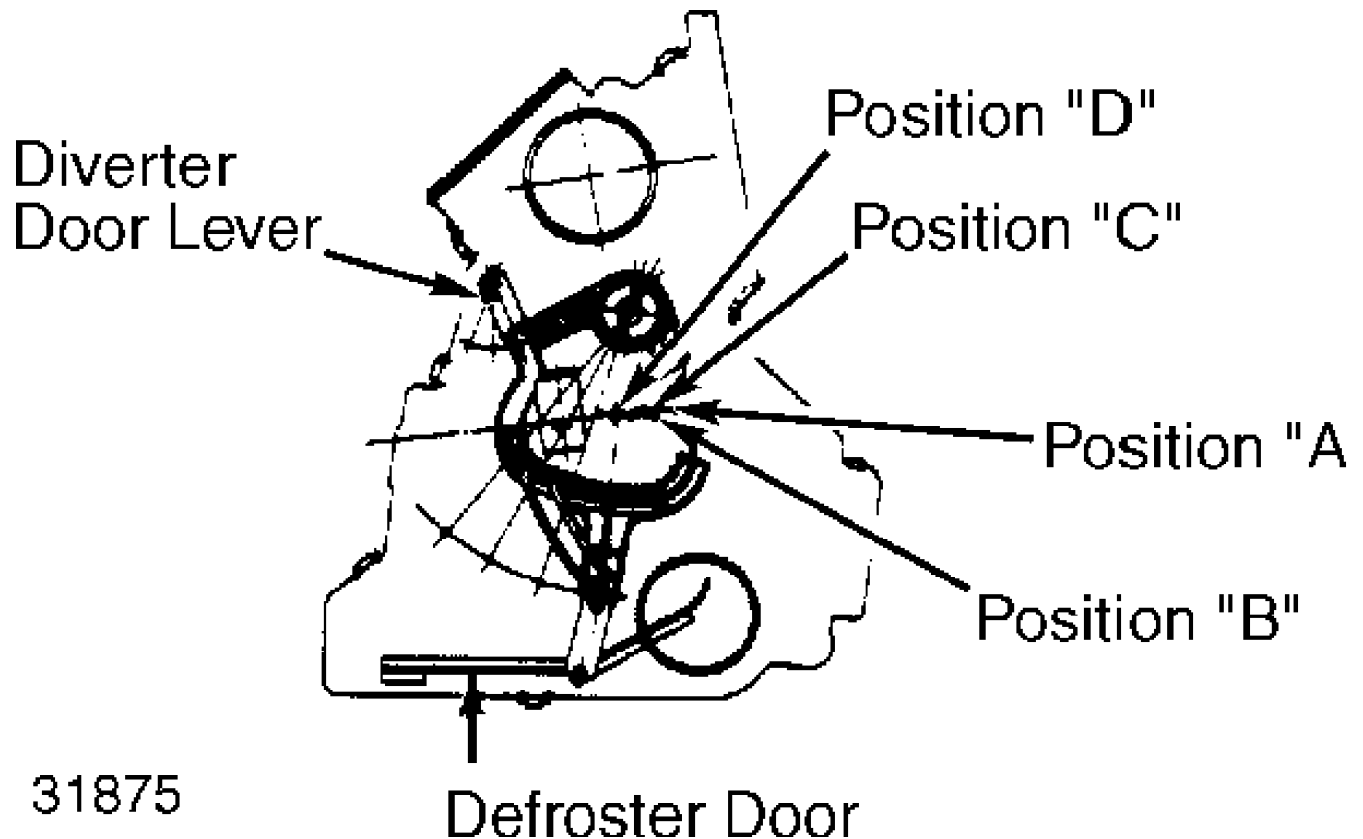

Fig. 3: Actuating Mechanism Positions
1) Position control lever at "DEF". On assist side of heater unit (in car), set actuating mechanism at position "A". See Fig. 3. Insert cable and install clip.
2) Check adjustment with selector lever. With mode lever in "DEF" position and actuating mechanism in position "A", air flows from defroster ducts. With mode lever in "FOOT" position and actuating mechanism in position "B", air flows from heater outlet. With mode lever in "FACE" or "BI-LEVEL" and actuating mechanism in position "C", air flows from vent outlets. See Fig. 3.